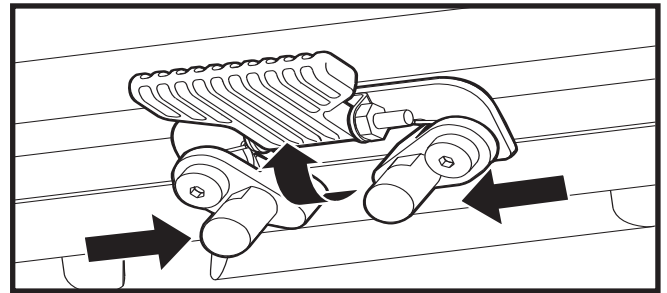

Figure 11. Seat Height Adjustment - Seat Latch Safety
5. Flip up the seat latch safety. **See figure 11.**
6. Squeeze the seat latch and release the seat from the front trapeze bar. **See figure 11.**